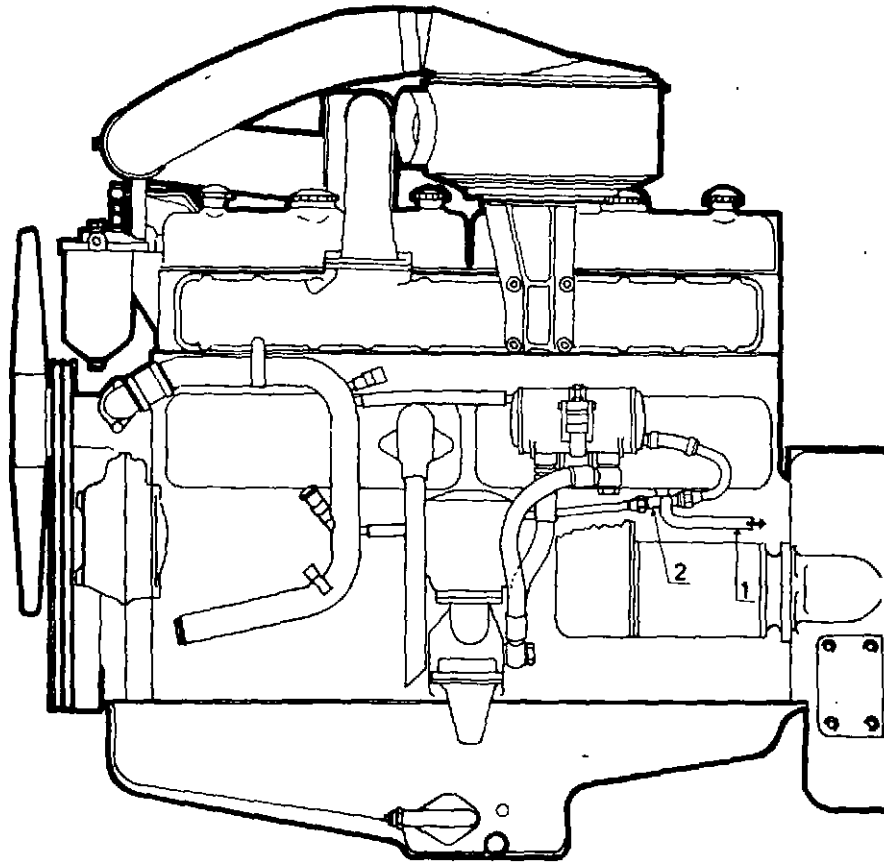

Fig. 3
2. The cold water from the engine **to** the engine heater is taken out at the outlet for oil cooler, see fig. 3 pos. 1 and 2. T-nipple part No. 156056 fitted as standard, is then replaced by nipple 203523 pos. 2, which in addition to the connections of the T-nipple is completed with connection for hose with \varnothing 19 mm inside diameter.